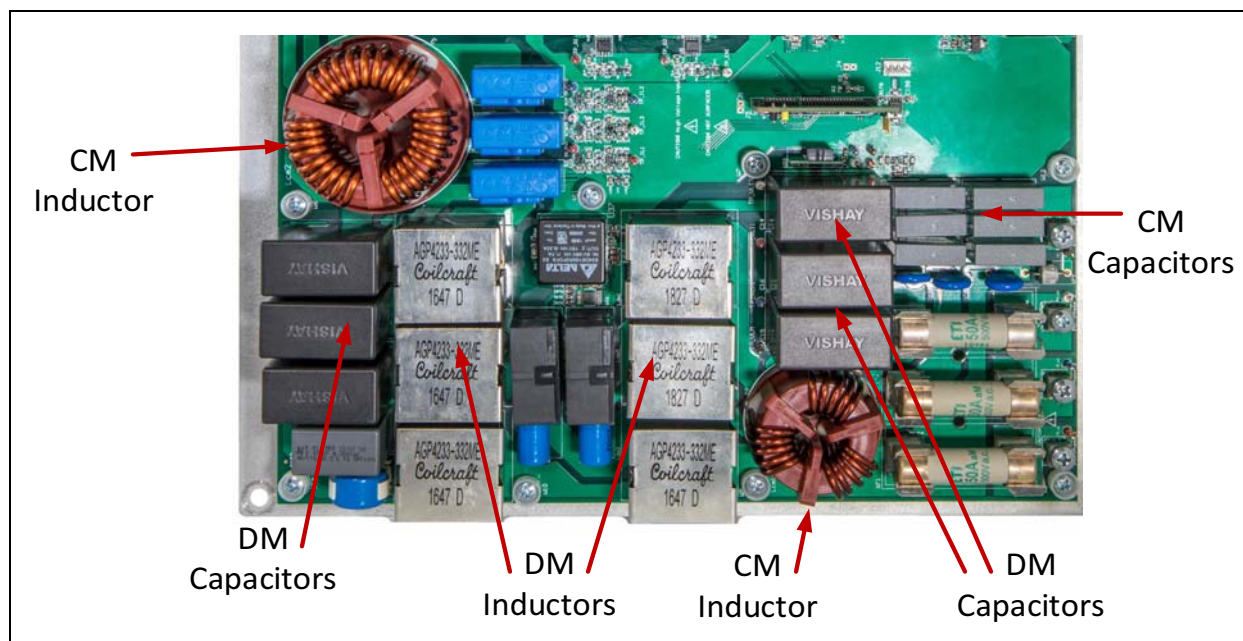
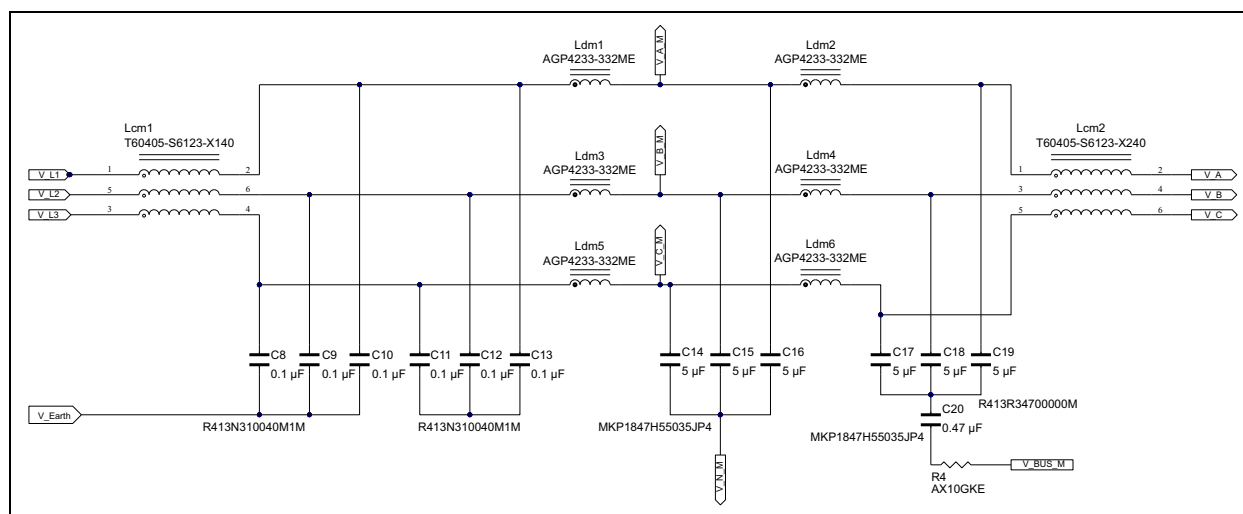

FIGURE 2-8: EMI Filter Components.
FIGURE 2-9: Input EMI Filter.
The EMI filter is used to suppress both Common-mode (CM) and Differential-mode (DM) noise. The filter is comprised of two Common-mode and two Differential-mode sections. The components are selected to filter out frequencies in the 150 kHz to 30 MHz range. The input filter schematic is shown in Figure 2-9 and the filter components are identified in Figure 2-8.